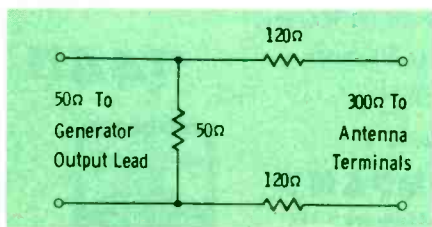

Fig. 1. Resistive network used to match impedances between sweep generator and antenna.
7.5-volt "C" battery and a 500K potentiometer function very well in this application. A crystal-demodulator probe of the high-impedance variety is also a necessity in tuner alignment. In addition, a 50-ohm and a matched pair of 120-ohm carbon resistors should be used between the antenna terminals and the sweep output cable. Another standard resistor needed is a 10K, 1-watt unit for isolation between the scope and the mixer injection point (tuner test point in mixer grid circuit). One such matching unit (Fig. 1) could be assembled and mounted on a phenolic board. The 50-ohm resistor could be either a 50- or 51-ohm 1% precision carbon resistor and the two 120-ohm units can be selected from 10% composition units. The 120-ohm resistors should be matched in value at between 120 and 125 ohms; thus, when they are used in series with the 50-ohm resistor, the total resistance will be very near 300 ohms. If a number of 47 ohm composition resistors are available, a unit between 50 and 52 ohms could be selected, eliminating the need for a precision resistor. This affords the best impedance match, and therefore the maximum transfer of energy from the generator cable (usually 52 ohms) to the antenna input (300 ohms). Last but not least, you'll need an array of alignment tools, insulated so that the tool itself will not detune the circuit being adjusted.